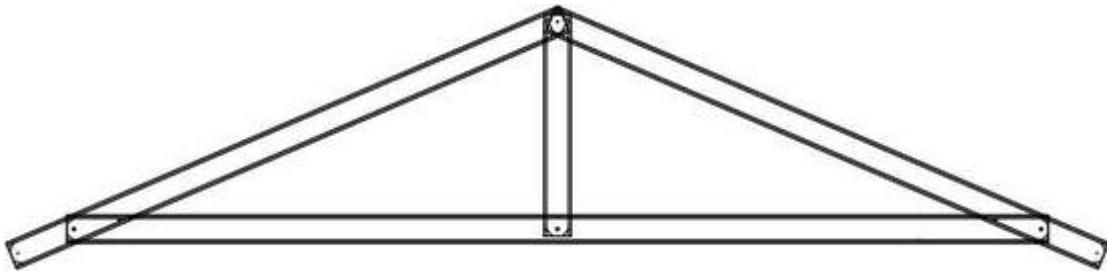

Figure 5.8 Saddle Truss
5.10) Saddle Truss: A-truss with the top chords cut at the heel to form a foot cut. It is used to form a valley line when two roof planes intersect. Saddle trusses are supported by trusses or rafters below (Refer to **Figure 5.8**).